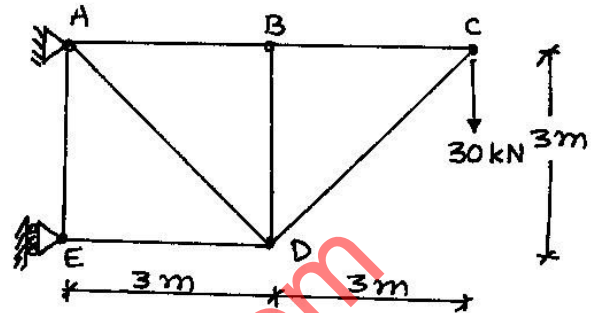

FIG 4. Q 3 (b)
- (b) Determine forces in members of truss shown in **fig 4.** **05**